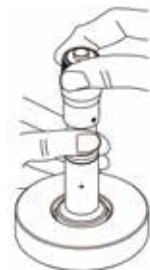

Fig. 2
1. To apply measuring force, bring the measuring face into light contact with the workpiece and hold there. Then rotate the ratchet 5 to 6 times (giving 2 to 3 turns) to apply constant force. (Fig. 2)